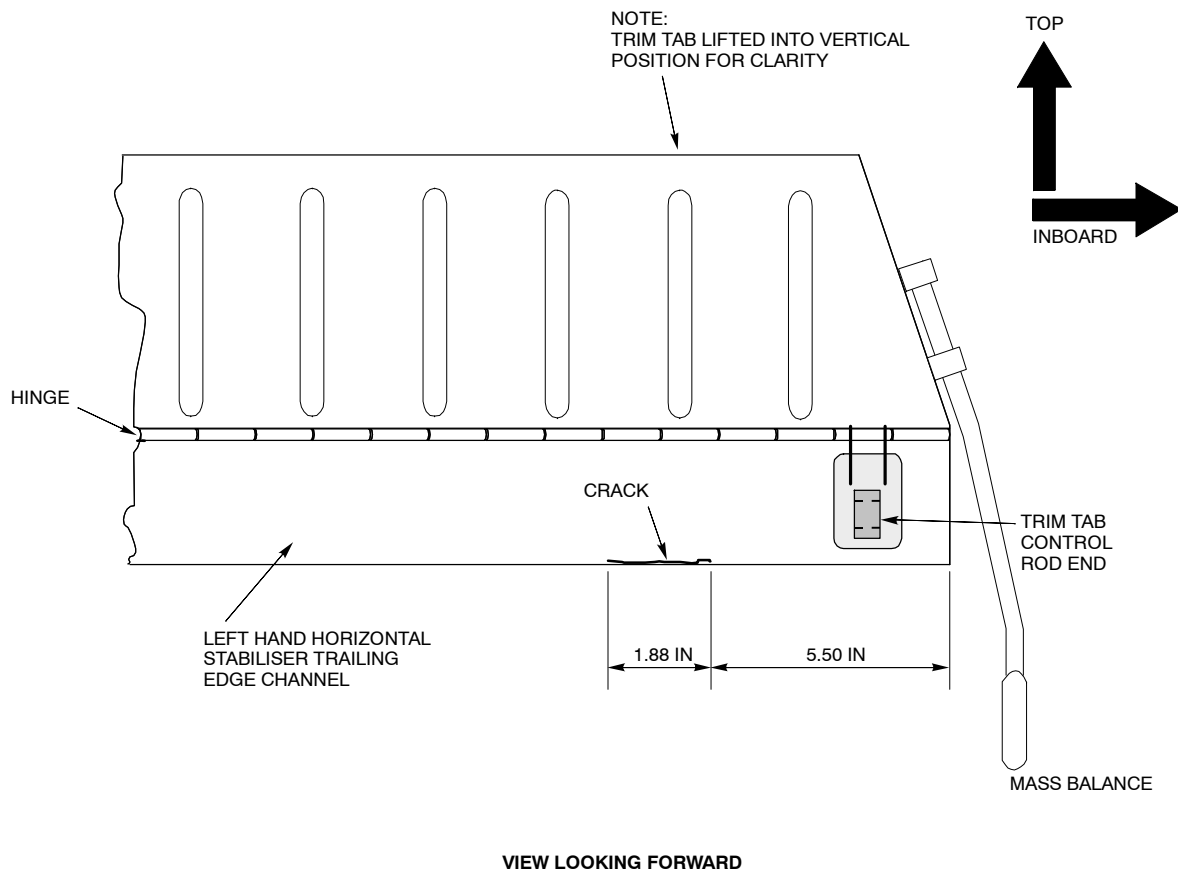

Figure 3 Cracking of Horizontal Stabiliser Inboard Trailing Edge Channel
A number of operator Defect Reports have been received which have indicated a problem with cracking of the horizontal stabiliser upper and lower skin (Ref Fig 1, Sht 1 & 2), at the ends of the horizontal stabiliser access hole intercostal angles PN 1D/N-03-596, PN 1E/N-03-596, PN 1F/N-03-596 and PN 1G/N-03-596 (Ref Fig 4 and Fig 5) and in the horizontal stabiliser trailing edge channel (Ref Fig 3).
- (3) Inspection is required of the horizontal stabiliser trailing edge rear spar channel (Ref Fig 3).
- (3) Disconnect the trim tab from the trim tab control rod in order to provide clear access.
- (4) Lift each of the trim tabs in turn so that the lower trailing edge rear spar channel may be clearly seen and inspect for any cracking along its length (Ref Fig 3).
- (5) Lift each of the trim tabs in turn and inspect the horizontal stabiliser trailing edge along full length for cracks.
- (6) Visually inspect entire surface of LH and RH tip fairings, paying particular attention to attachment edge, for cracks.